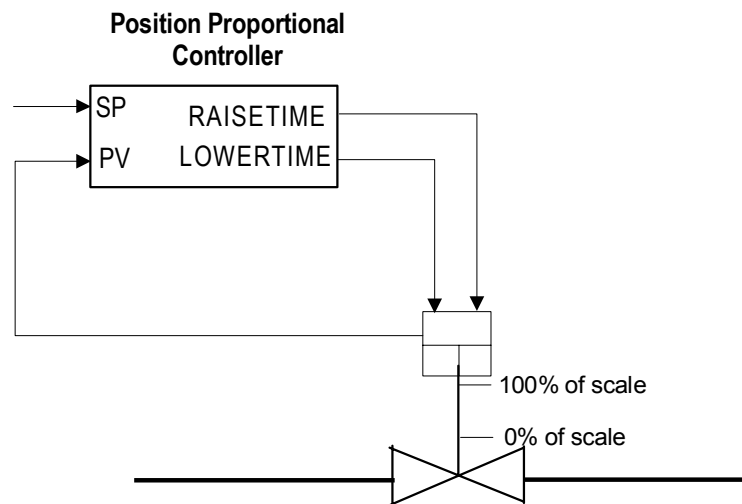

Figure 24 Example of Position Proportional loop for controlling valve position.
Figures 24 and 25 show examples of position proportional control loops to maintain a desired valve position using raise and lower pulse outputs or pulsetime output in conjunction with a pulse length or pulse count block, respectively. In these examples, the set point (SP) is the desired valve position and the PV is the actual valve position.